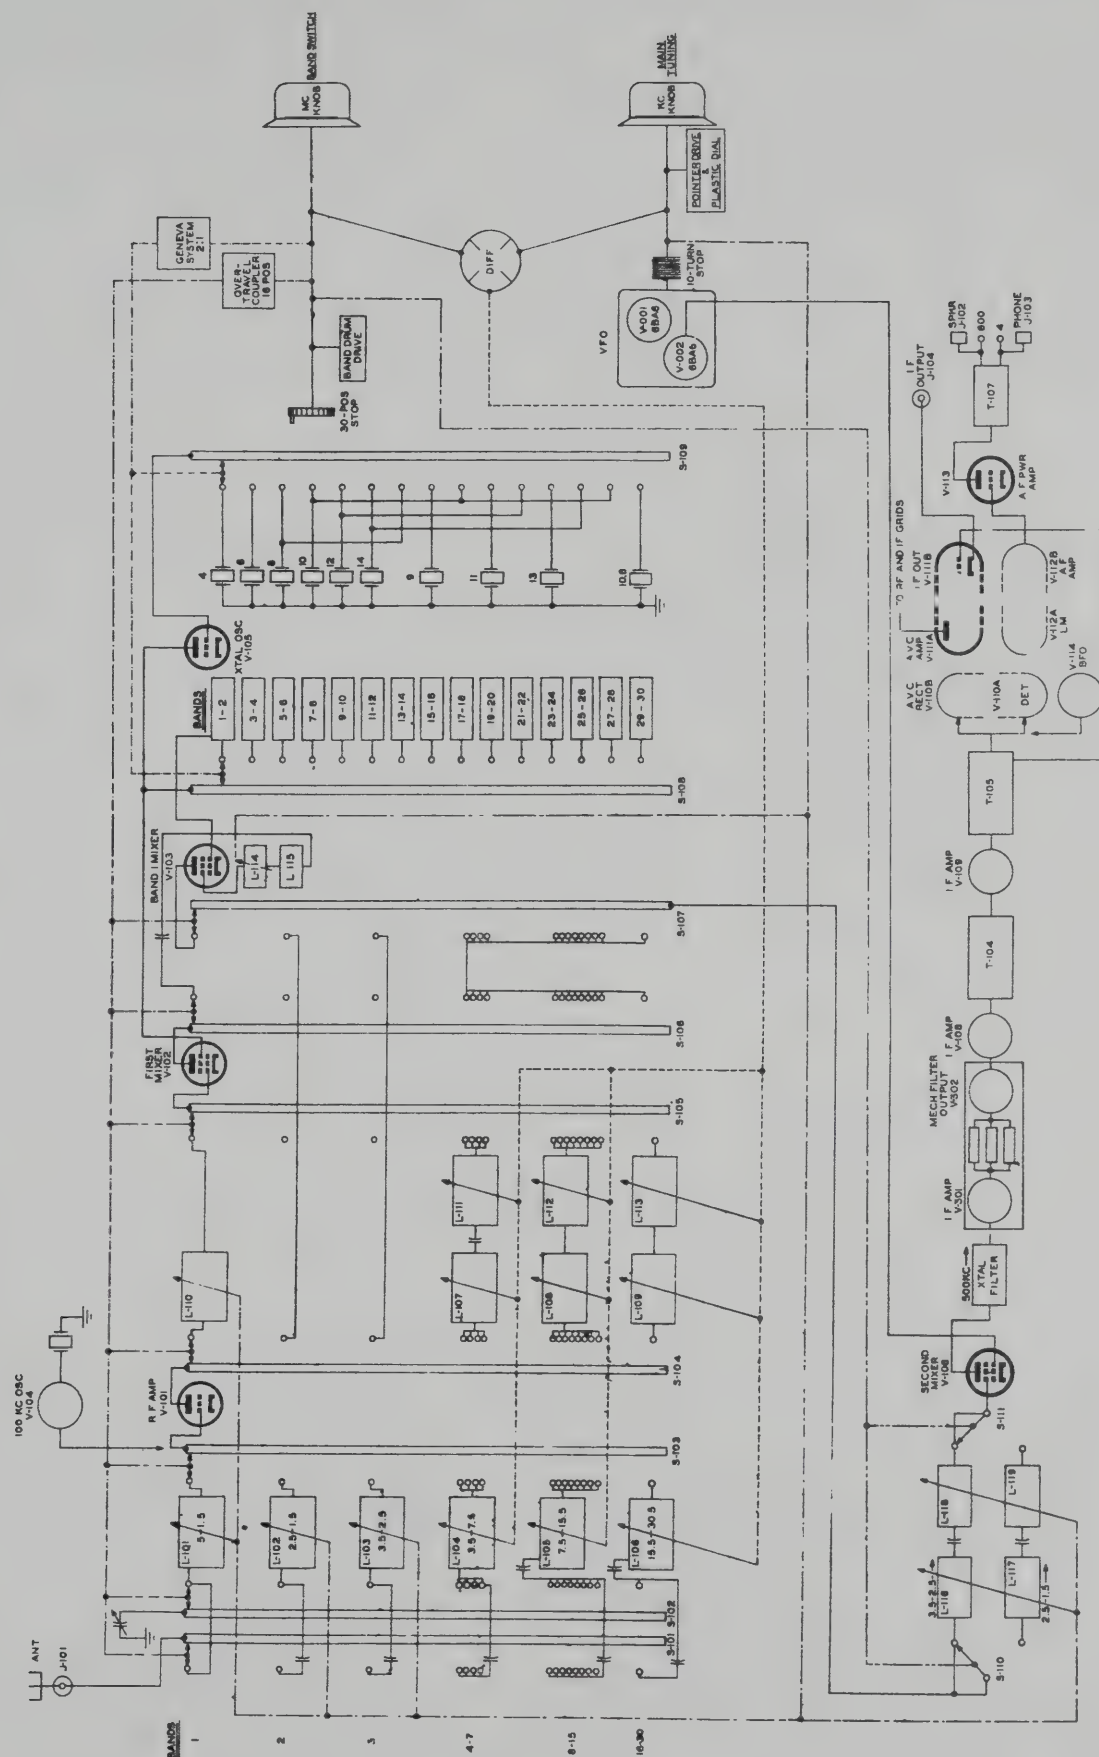

Figure 4-1. 51J-4 Band Change and Tuning System, Block Diagram
4.1.1. BAND CHANGE. - Collins 51J-4 Receiver covers the frequency range of 0.5 to 30.5 mc in 30 bands: 0.5 to 1.5, 1.5 to 2.5, and so on up to 30.5 mc. Each band is one megacycle wide. Circuits affected by band changes are the r-f amplifier grid, first, second, and third mixer grids, crystal selector, and crystal harmonic tuning circuits. The third mixer is switched in only on band 1 (.5 to 1.5 mc). See figure 4-1.
**4.2.2. RADIO FREQUENCY AMPLIFICATION.** - One stage of radio frequency amplification is used on all bands. See block diagram, figure 4-1. The circuit is a conventional r-f amplifier circuit employing a type 6AK5 miniature r-f pentode, V101.